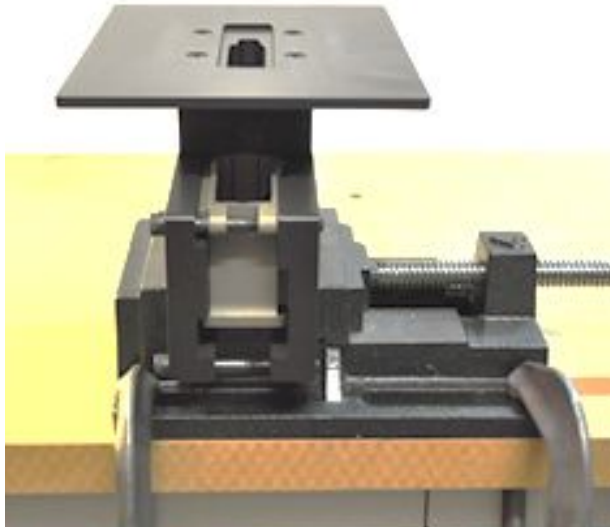

Figure 3.3 (left): Jig clamped on vice with proper orientation as viewed from the user's observation point
- Secure jig assembly into vice (c-clamp if necessary) as shown in figure 3.3.